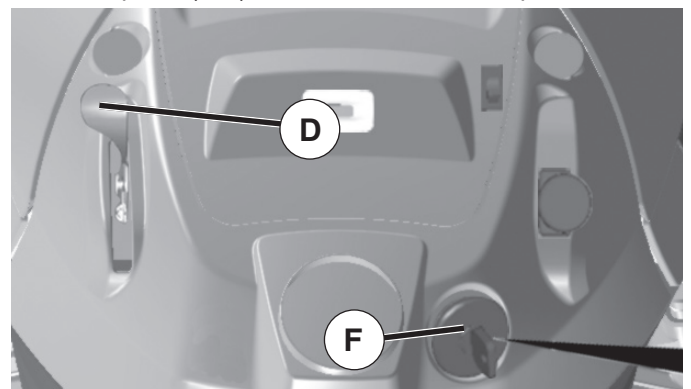

Fig. 6
- Move throttle control (D) between half and full speed (fast) position.
- Turn ignition key (F) to “STOP” position and remove key. Always remove key when leaving tractor to prevent unauthorized use.
### TO USE THROTTLE CONTROL (D) (See Fig.6)